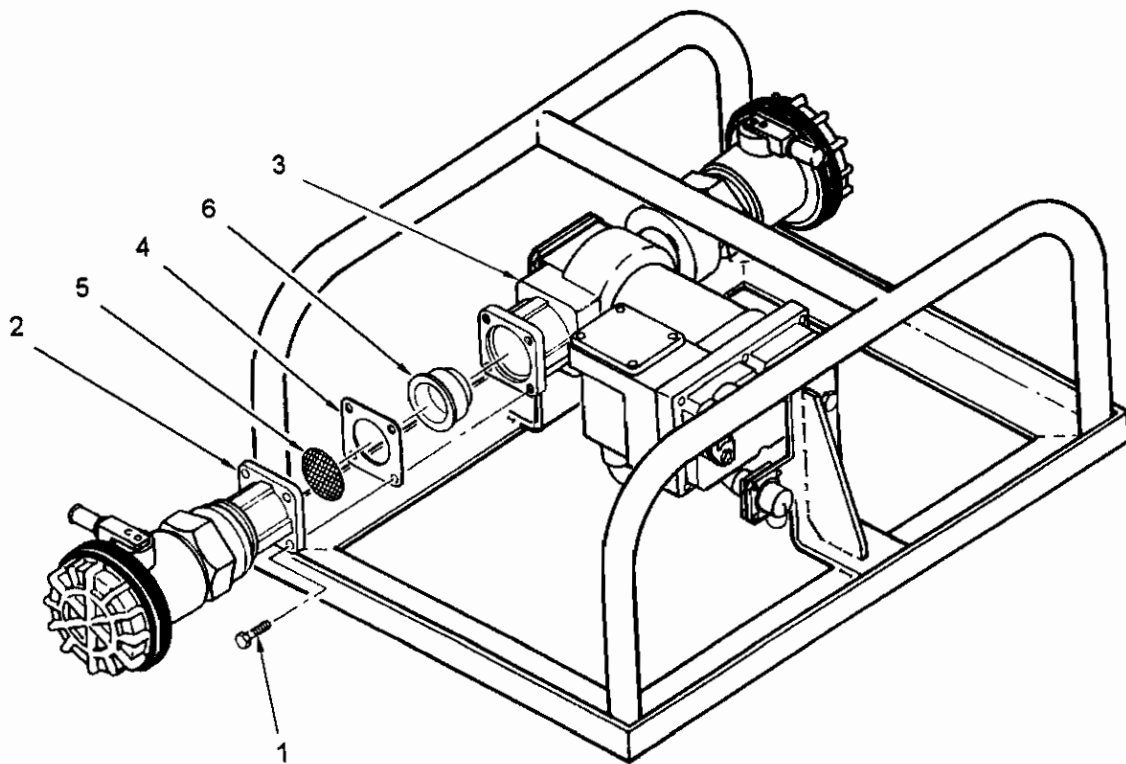

Figure 4-12. Auxiliary Pump Inlet Components
4.8.11 CLEAN AND REPLACE AUXILIARY PUMP INLET COMPONENTS. (Refer to figure 4-12.)